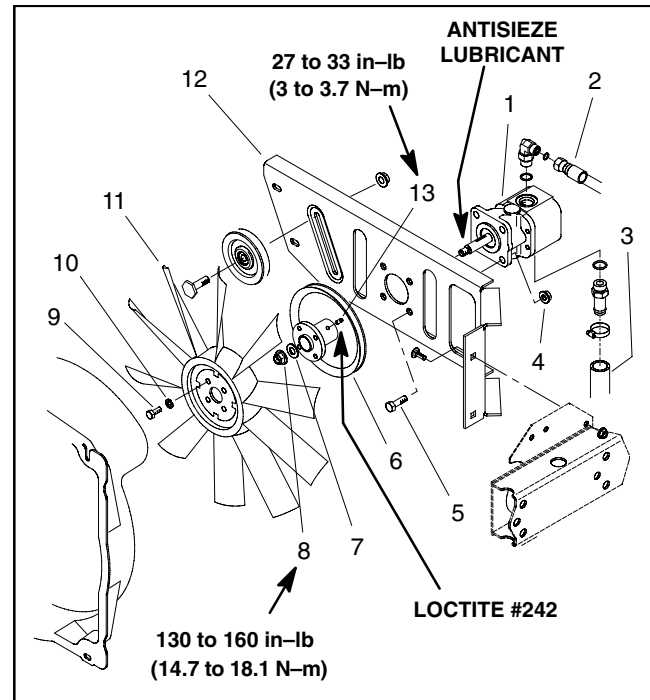

Figure 20
Removal (Fig. 20)
6. Remove gear pump from mount plate using Figure 20 as a guide.
Installation (Fig. 20)
1. Install parts as shown in Figure 20 and using the following instructions: